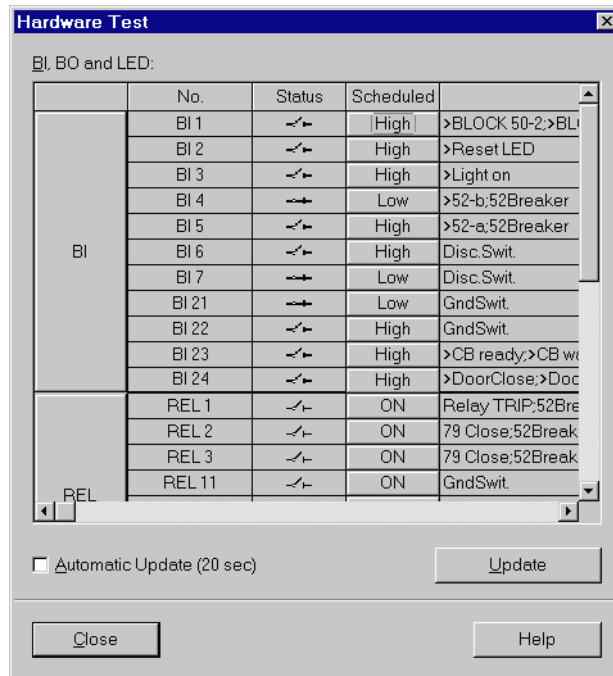

Figure 8-17 Dialog Box for Hardware Test
- Double-click in the list view on **Hardware Test**. The dialog box of the same name opens (see Figure 8-17).